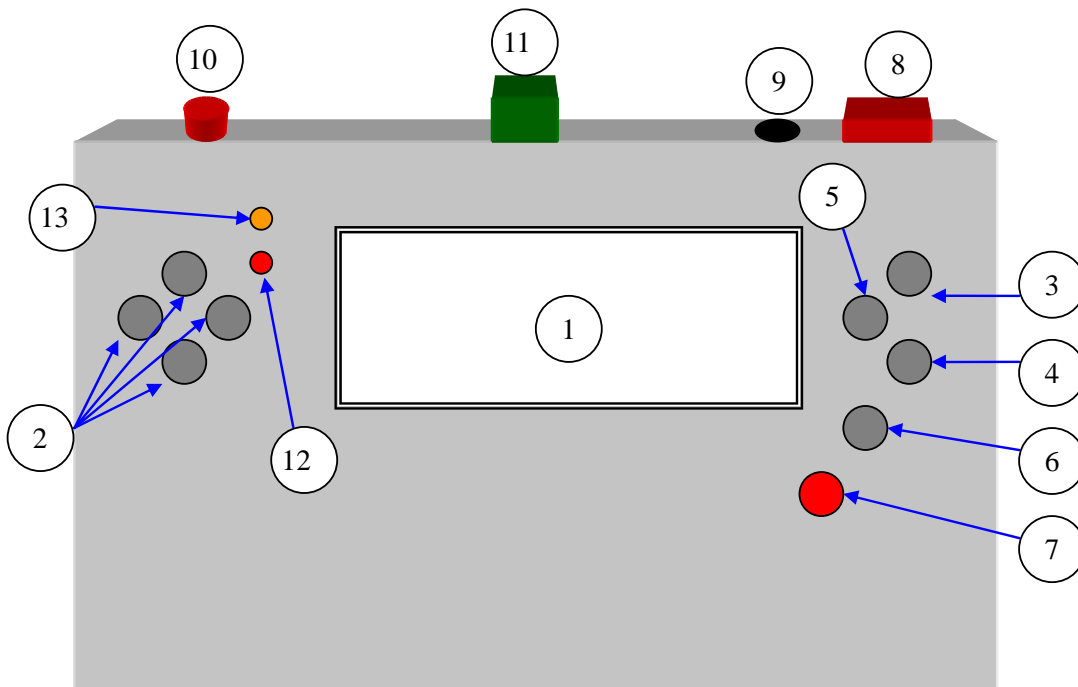
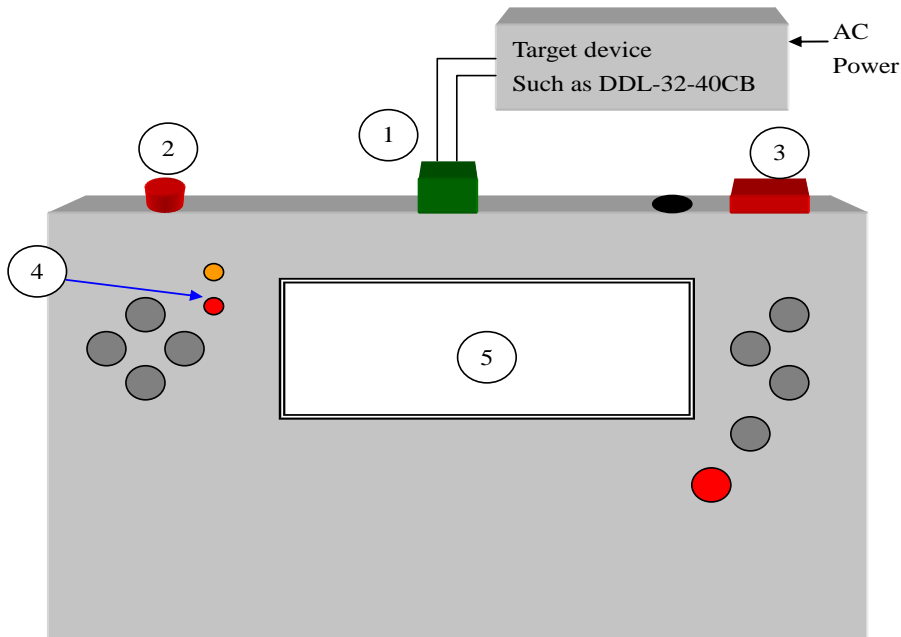
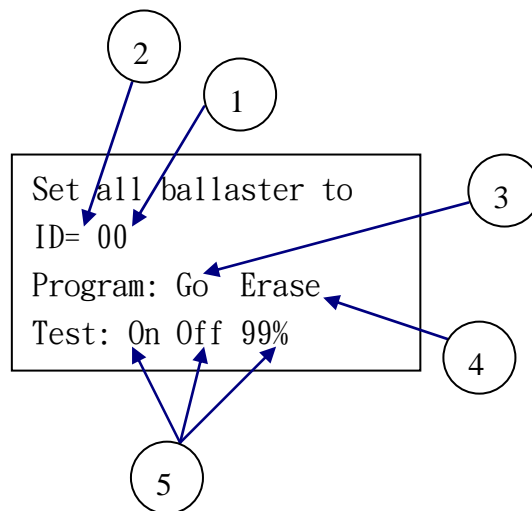
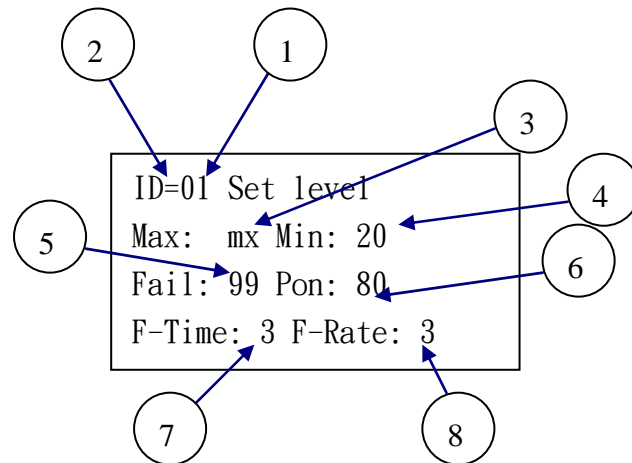

Figure 1.1: AO-1330 hardware description
Figure 2.1: Procedures of ID setting for a target device
Figure 2.2: The LCD display showing ID setting for a target device
Figure 2.3: The LCD display showing parameter setting for a target device
The functions of the patterns indicated/pointed by the circled numbers shown in Figure 1.1
When AO-1330 is switched on, the LCD display will show the six options as illustrated in the following figure. Move the cursor to the objective function item by using the up, down, left, and right button shown in Figure 1.1. Then, push the “OK” button to proceed with the operation.
Supply power source to the target device. Referring to Figure 2.1 and carrying out the following steps, we can proceed with the ID setting of target devices. Note that the items described in the specific number of the step are related to the objects indicated by the corresponding circled number in Figure 2.1. For instance, the DALI bus power source described in Step 2 is the object indicated by ② in Figure 2.1. This association also applies to the description in the later context.
- (1) Use two wires to link the DALI bus connector of AO-1330 and the target device.
- (2) Supply the DALI bus power by pressing the switch.
- (3) Switch on the power source of AO-1330.
- (4) The DALI bus power indicator will light.
- (5) Move the cursor in ⑤ of Figure 2.1 to the item “1.Set ID”, and press the “OK” button ⑤ in Figure 1.1. Then, you will be in the window to set ID for the target device.
The window that shows ID setting for a target device will display messages as shown in Figure 2.2. Move the cursor to the appropriate object arrowed by the circled number in Figure 2.2
by using the buttons indicated by ② in Figure 1.1. The functions of the objects arrowed by the circled numbers are described in the following. Note that as mentioned previously, the function of the object arrowed by the circled number is related to the description of the item with the same number, e.g., statements described in item 1 are related to objects indicated by ① in the figure.
- (1) Select an ID number (0~63). You can use the ③ and ④ buttons in Figure 1.1 to change the value of ID.
- (2) Press the “OK” button to search the existent DALI devices in the loop. Starting from 0, the search will terminate if any device is found. Note that only one ID can be shown in the LED display.
- (3) Press the “write” button ⑦ in Figure 1.1. Then, the IDs of all target devices in the DALI bus will be set to the value shown in ① of Figure 2.2.
- (4) If you want to erase the ID of any target device, just press the “write” button ⑦ in Figure 1.1. This operation is irrelevant to the value ① shown in Figure 2.2.
- (5) For the target device with ID indicated in ①, you can emit command to switch on, switch off, or adjust the illumination of the target device by moving the cursor to the appropriate position. The range of illumination adjustment is 0-99% or “mx”, in which “mx” corresponds to 100%.
Every target device has some internal parameters that can be set. When in this stage, the LCD display will appear as shown in Figure 2.3. Move the cursor to the appropriate object arrowed by the circled number in Figure 2.3. The functions of the objects arrowed by the circled numbers are described below in the items with corresponding numbers.
- (1) Select ID number (0~63) of the target device.
- (2) Press the “OK” button. You can read the internal parameters of the target device with ID determined from position ① in Figure 2.3.
- (3) Set the maximum output value of the target device. The allowable range is 0-99%, or 100% represented as “mx”.
- (4) Set the minimum output value of the target device. The allowable range is 0-99%.
- (5) The output data when the system fails to function properly. The allowable range is 0-99%, or 100% represented as “mx”.
(ii) When the cursor is located at any position indicated in Figure 2.3, the present value of the corresponding parameter can be written into the target device by pressing the “write” button ⑦ in Figure 1.1.